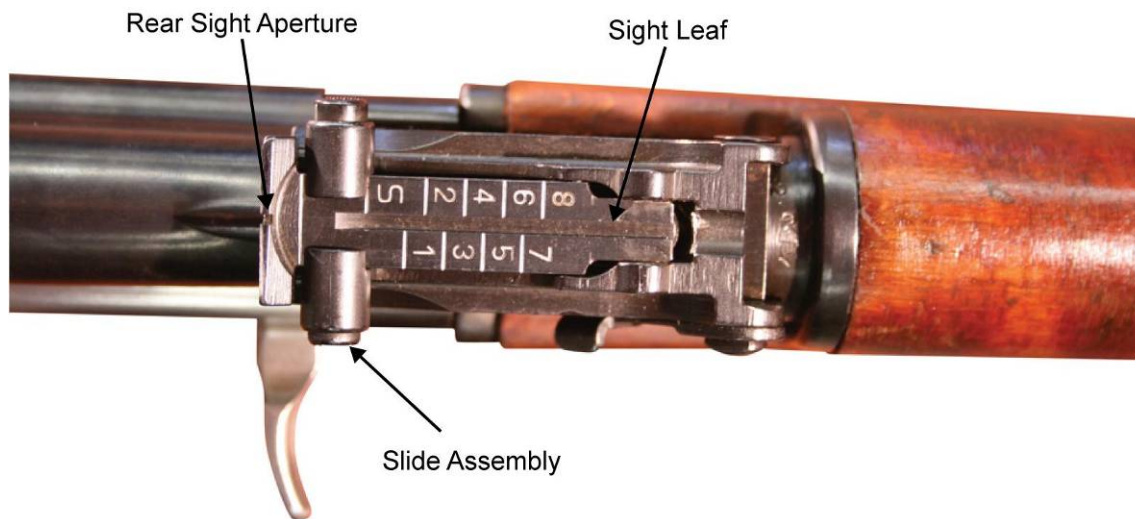

Figure 5. The Rear Sight with the Slide Assembly Set on the “S” Setting.
2. **Rear Sight.** The rear sight aperture is on the end of the sight leaf. Moving the slide assembly to different distance markings on the sight leaf adjusts for distance to target. The slide assembly snaps into place on the distance markings on the sight leaf. Set the slide on “S” for ranges under 100 meters, “1” for 100 meters, “2” for 200 meters. Refer to Figure 5.